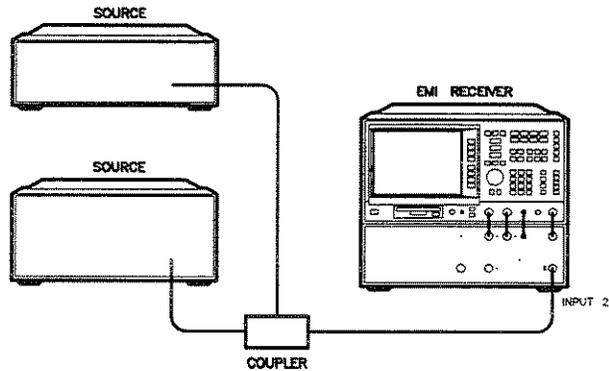

Figure 6-21. Set-Up for Obtaining Two Signals
1. Connect two signal generators to the input of the receiver as shown in Figure 6-21. Set one signal to 300 Mhz, 92 dB μ V (-15 dBm) and the other to 305 MHz, 27 dB μ V (-80 dBm). Increase the amplitude of the 305 MHz signal if it is masked by the noise level of the 300 MHz source.